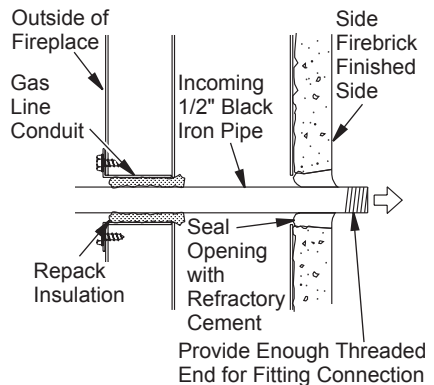

Figure 19 - Gas Line Installation
3. Run a 1/2" black iron gas line into the fireplace through the rear at gas line conduit sleeve (if using a raised platform, add height). Provide sufficient gas line into fireplace chamber for fitting connection (see Figure 19). **Note:** Secure incoming gas line to wood framing to provide rigidity for threaded end.